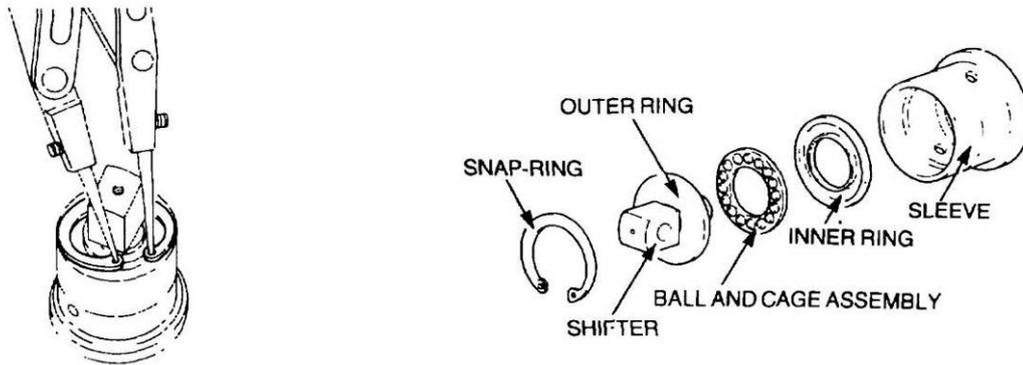

Figure 103 Removal of the Shifter and Bearing
- z.** Remove the circlip securing the shifter to the sleeve, then remove the shifter and bearing assembly from the sleeve (Figure 103).